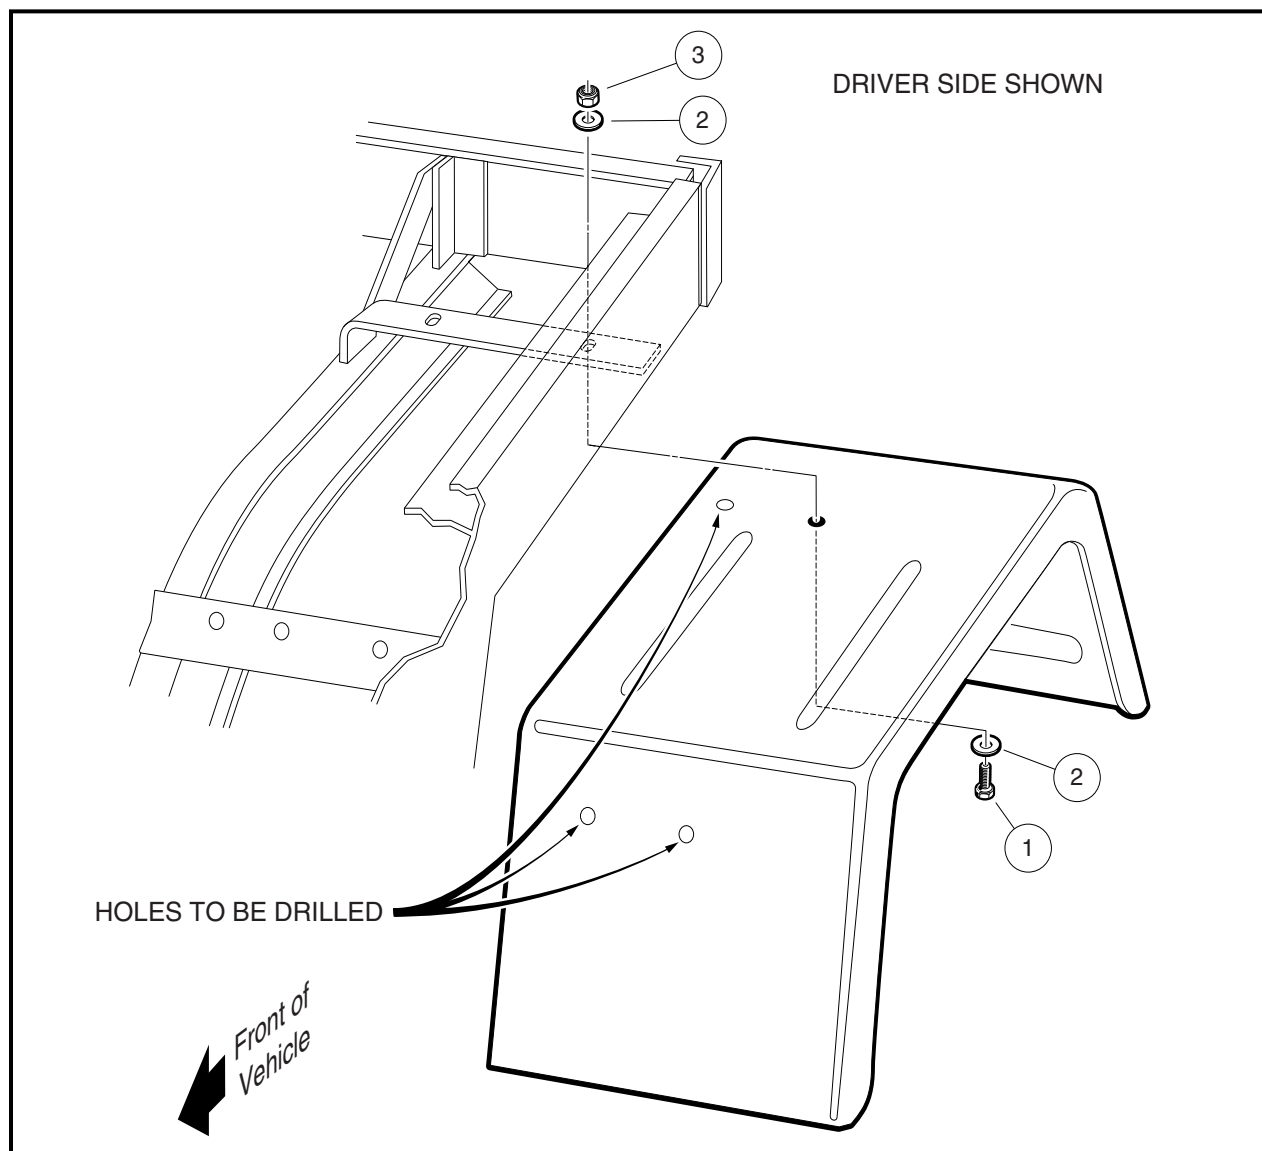

Figure 21 Install Hardware in Fender Hole
3. Position a fender in the vehicle, align the hole in the fender with the slot in the frame as shown and install bolt (1), large flat washers (2), and locknut (3) (**Figure 21**). Finger-tighten only at this time.